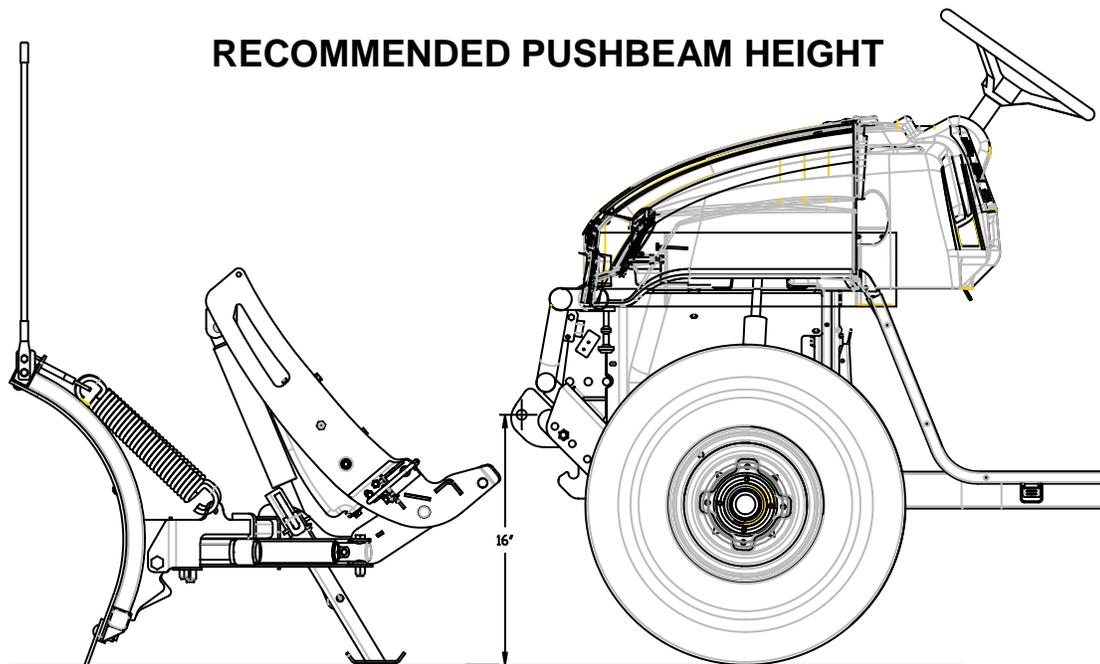

Figure 2
3. Using 3/8"-16 X 1-1/4" Hex Head Bolts (F), 3/8" Flat Washers (G), and 3/8" -16 Nylon Lock Nuts (C), mount Skid Plate (75) and Bumper to Ranger frame. Tighten securely.
5. Using existing bolts and nuts, 3/8"-16 X 1" Carriage Bolts (I), and 3/8"-16 Nylon Lock Nuts (C) mount Driver Side Pushbeam Support Plate (62B) to Ranger Frame. Leave finger tight.
7. Using 1/2"-13 X 1-1/4" Carriage Bolts (H) and 1/2"-13 Nylon Lock Nuts, mount Pushbeam Assembly (62) between the Pushbeam Support Plates (62A & 62B). NOTE: The proper height adjustment for the Pushbeam is 16" from the ground to the center of Pushbeam (62) pin-receiving hole (See Figure 2).